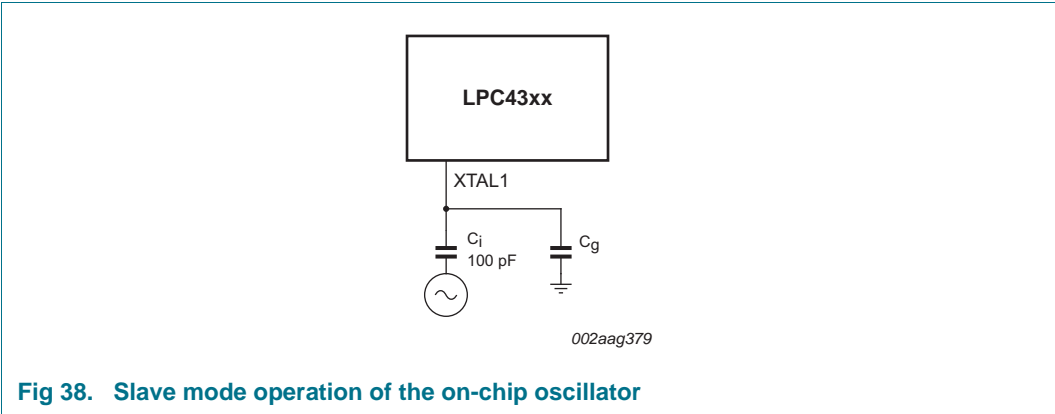

Fig 38. Slave mode operation of the on-chip oscillator
- In slave mode, couple the input clock signal with a capacitor of 100 pF ( $C_C$  in Figure 38), with an amplitude of at least 200 mV (RMS). The XTAL2 pin in this configuration can be left unconnected.